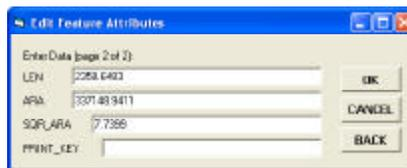

Figure 6
- *OK* button to apply the values appearing in the dialog box to the feature. At this point, the command will either terminate or display another multi-input dialog, as shown in Figure 6, if there are more attributes associated with the feature, at which point, Step 3 repeats.